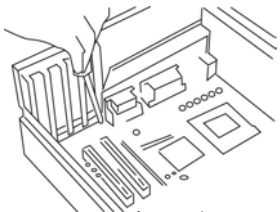

Figure 4
2.2) Install I/O shield (from inside of case). Find the correct mounting hole for M/B, screw in standoffs, fasten M/B with the screw. (See Figure 4)